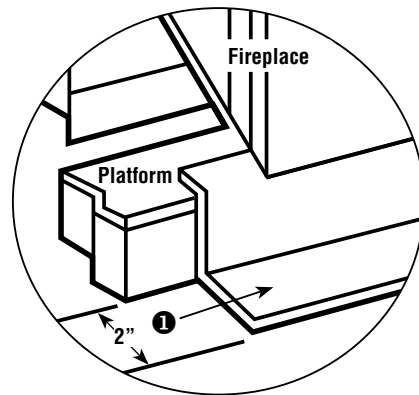

Figure 8 - Hearth Extension Requirements
The construction of the framing, facing, and mantel must be in accordance with the standards and the following illustrations (**Figures 8 and 9**):
C. Frame the fireplace with vertical studs at the sides of the fireplace running from floor to ceiling (see **Figure 8**). If combustible facing is to be used, position the studs back, from the front edge of the fireplace (a space that is the thickness of the facing material, so that the facing can be installed flush with the fireplace facing). Frame headers between the vertical studs only as follows:
The fireplace may be installed directly on a combustible floor. The supplied safety metal strip must be positioned as follows: One half under the front of the fireplace and the other half must extend on the floor over which the hearth extension will be built (see **Figure 8**).